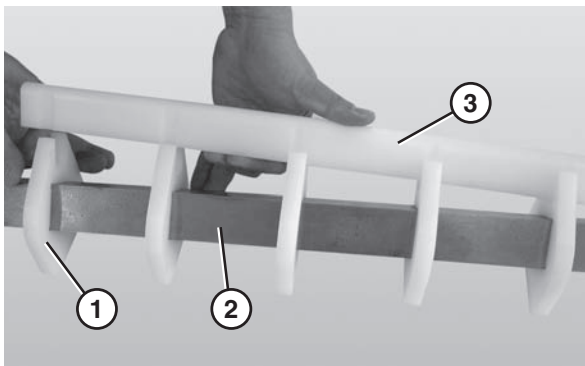

Figure 74
1. Slide the nose bar pucks (**Figure 74, item 1**) onto the nose bar drive post (**Figure 74, item 2**).
2. Attach the nose bar wear strip (**Figure 74, item 3**).